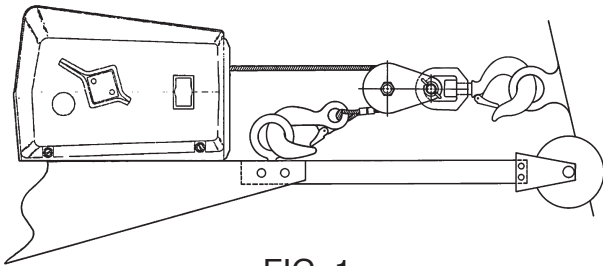

FIG. 1
3. For double line use, install an eyehook on the winch stand close to the base of the winch for fastening the stationary cable hook. (see Fig. 1) Be sure the eyehook is of sufficient strength to withstand loads in excess of the single line rating of the winch.